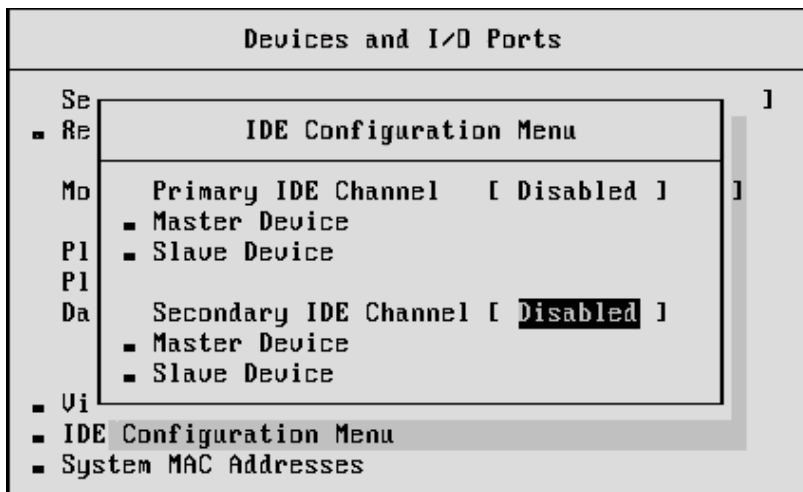

Figure 4-1 IDE Configuration Menu window
4. Set the Primary IDE Channel and Secondary IDE Channel option on the HS20 to Disabled (see Figure 4-1).